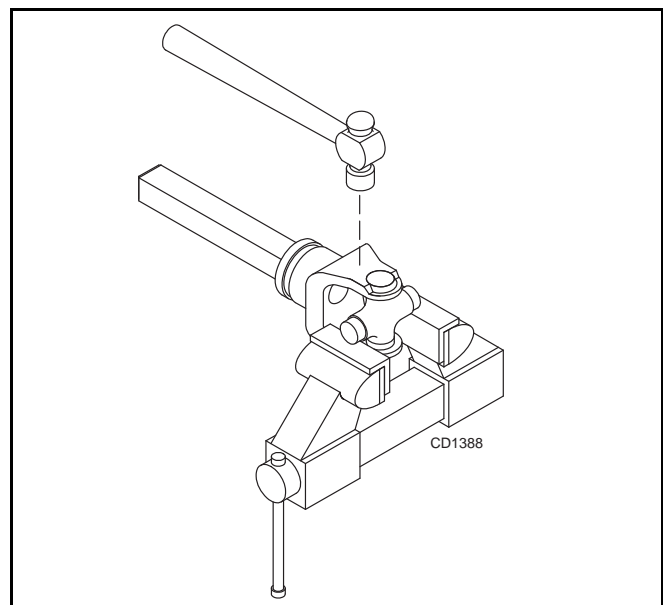

Figure 30
4. Place universal cross in vise as shown in Figure 30 and tap on yoke to remove cup. Repeat Step 3 for